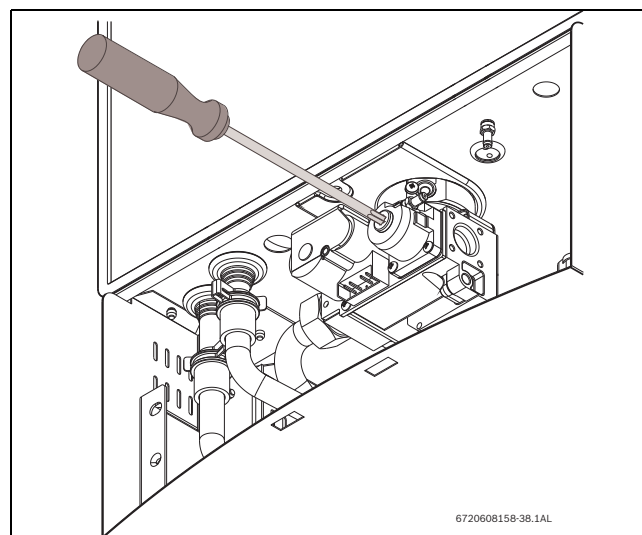

Fig. 66 Adjusting P2 CO2 level
- Remove yellow painted #40 Torx cover from the front of the gas valve. (Fig.66) A plastic #40 Torx screw will be revealed.